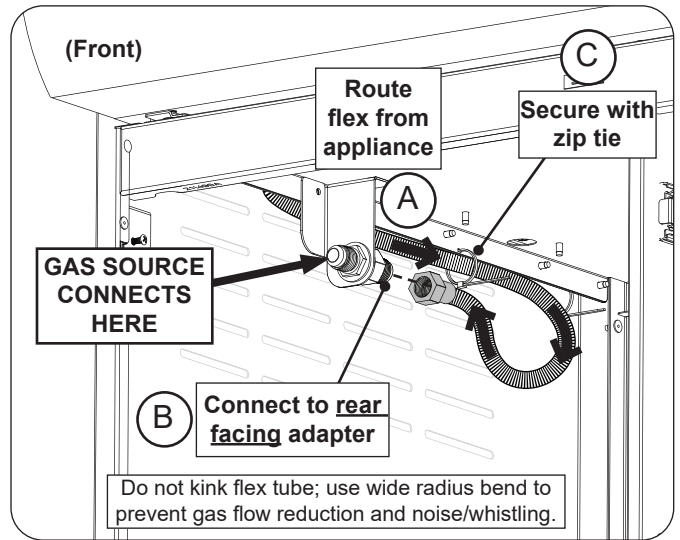

Fig. 12-1 Connect appliance flex to adapter
Route the flex connector coming from the appliance to the adapter that is pre-mounted on the upper left side of the cabinet interior. Connect the flex connector to the adapter facing the rear of the cabinet. See Fig. 12-1, A & B. Then, secure the flex hose to the cart body using a provided zip tie (Fig. 12-1, C).
- Read the safety warnings and follow the instructions in the SAFE USE AND MAINTENANCE OF PROPANE GAS CYLINDERS section, then connect the L.P. regulator hose to the opposite end of the pre-mounted adapter. See Fig. 12-1.